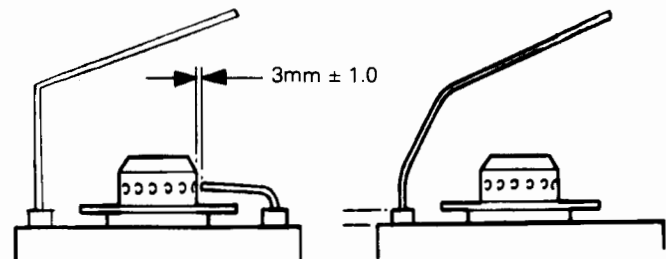

FIG. 26
4. Fit new electrode in reverse order, set gap and position (See Fig. 26).
4. Fit new sensing probe in reverse order, set gap and position. (See Fig. 26).